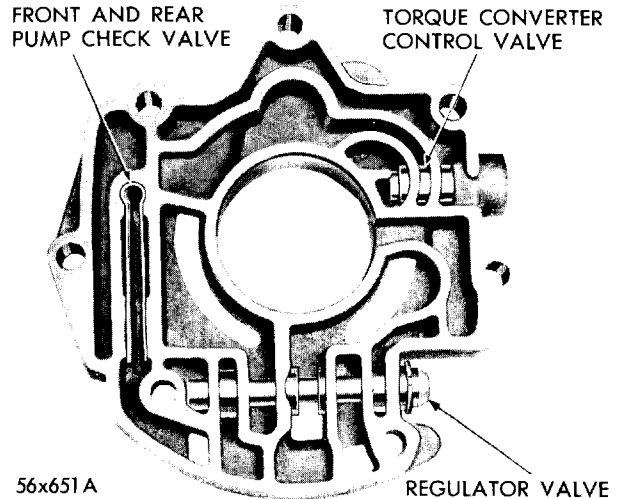

Fig. 56—Regulator Valve Body and Valves
(4) Pull regulator valve body off of torque converter reaction shaft and remove gasket. **Regulator valve body (Fig. 56) is made of aluminum and requires care in handling to avoid damage.**